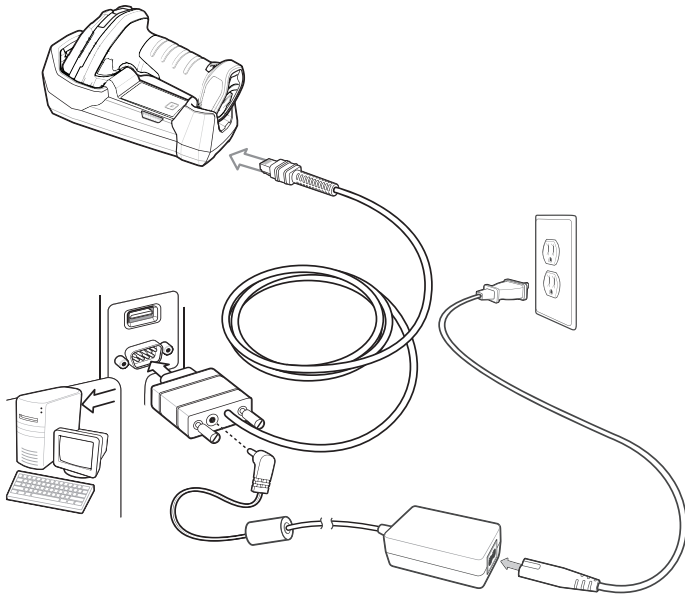

Figure 10-1 RS-232 Direct Connection to DS3678
- ✓ **NOTE** Interface cables vary depending on configuration. The connectors illustrated in Figure 10-1 are examples only. The connectors may be different from those illustrated, but the steps to connect the cradle remain the same.